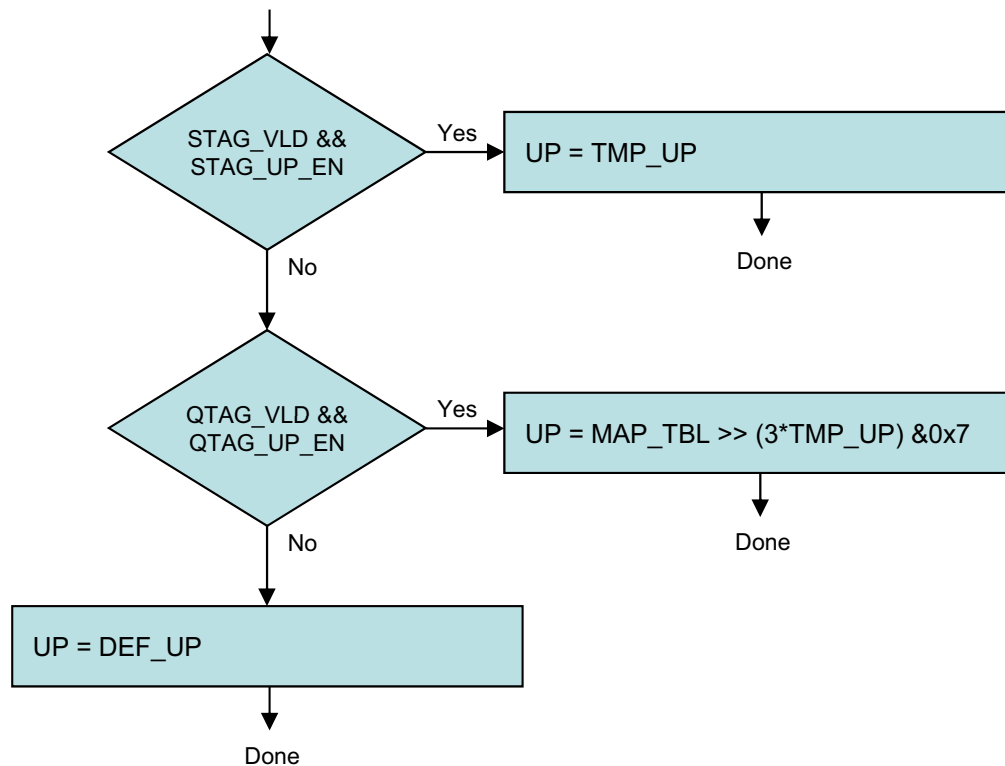

Figure 1.2 User Priority Resolution
c) User priority is resolved, as shown in Figure 1.2.